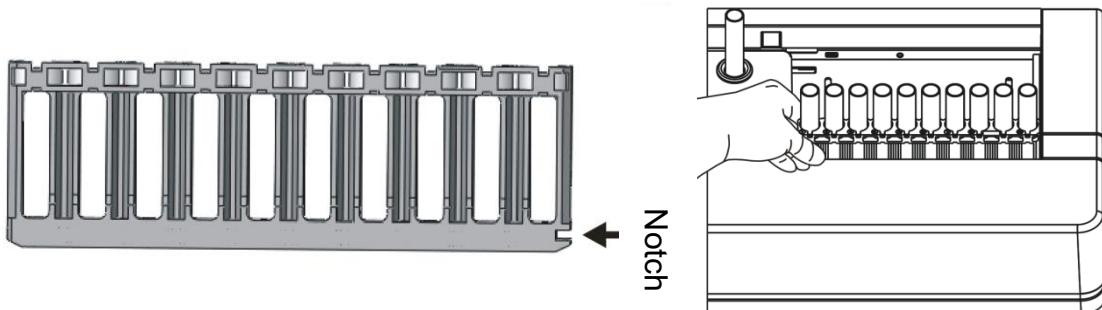

Figure 4-3
1) The test rack shall be placed on the platform on the right side of the injection mechanism, and the bottom notch on the right side of the test tube rack (see Figure 4-3) shall be inserted into the anti-reverse plate on the right side of the injection mechanism. The test tube rack should be placed from the outside to inside of the sample injection mechanism (see Figure 4-3).